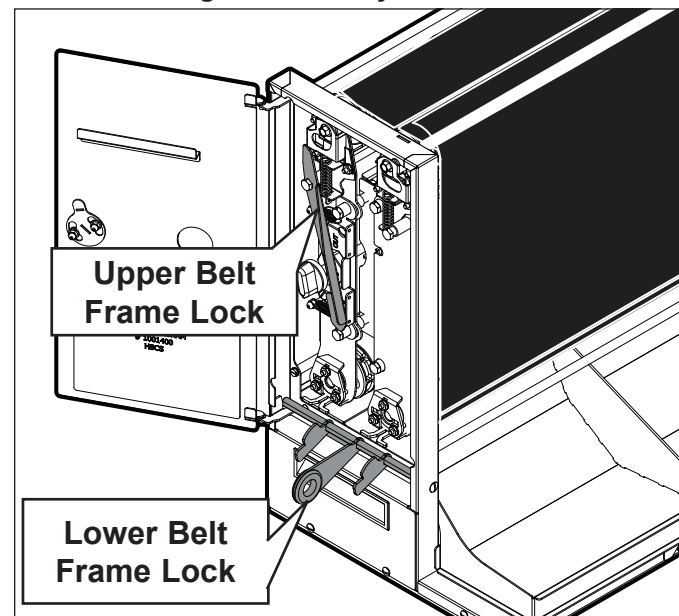

Figure 8. Conveyor Locks
9. Lift the upper Belt Frame Lock. Then rotate down so it rests on the cam shaft of the rear conveyor roller. (Figure 8).
10. Pull down the lower Belt Frame Lock (Figure 8).